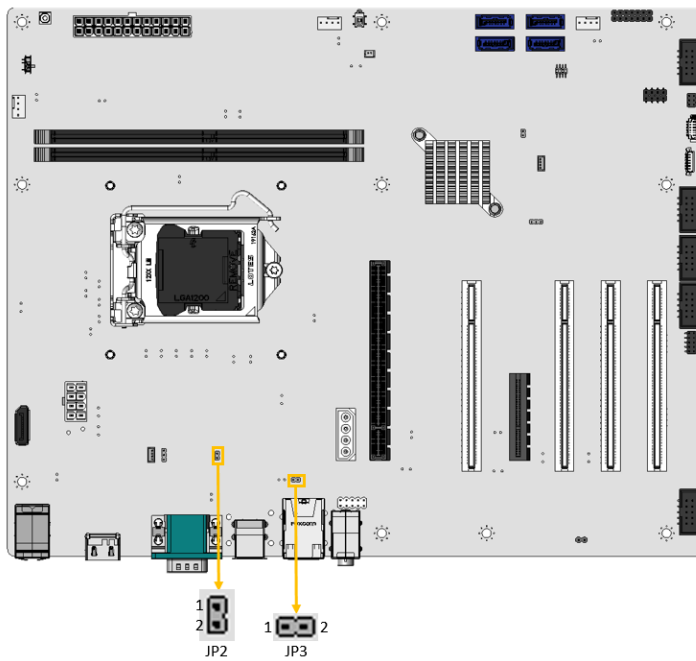

Figure 3-16: JP2, JP3 Connector Locations
- CN Location:** See **Figure 3-16**